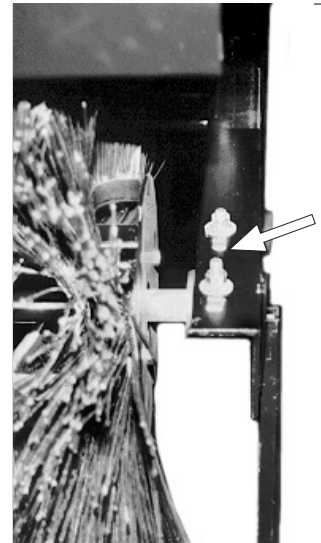

figure 2
3. Remove the 2 bolts from inside the left-hand side of the brush frame (figure 2).